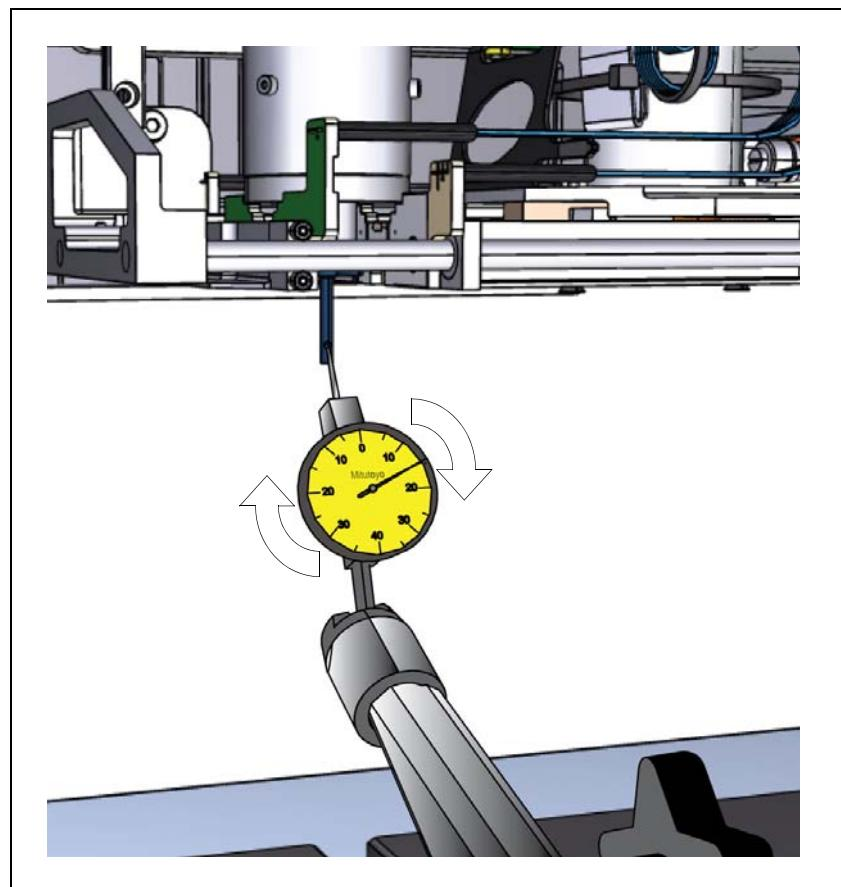

Figure 6-26. Position the dial indicator on Midas tool.
15. Turn the Midas tool and set the indicator (by turning the gauge housing) to zero, at the middle of the tools eccentricity (wobbling) range. See Figure 6-26.